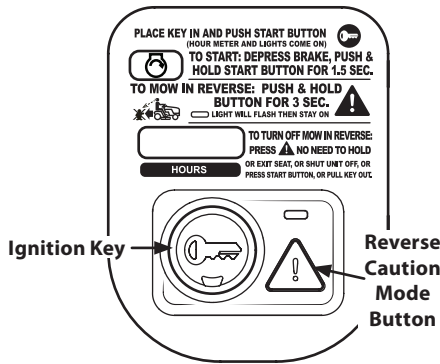

Figure 3-6
2. Press the REVERSE CAUTION MODE  button and hold for 3 seconds. The indicator light will flash for 3 seconds and will stay on when the REVERSE CAUTION MODE  is activated. See Figure 3-6.
3. The indicator light above the REVERSE CAUTION MODE  button will be ON while activated. See Figure 3-6.